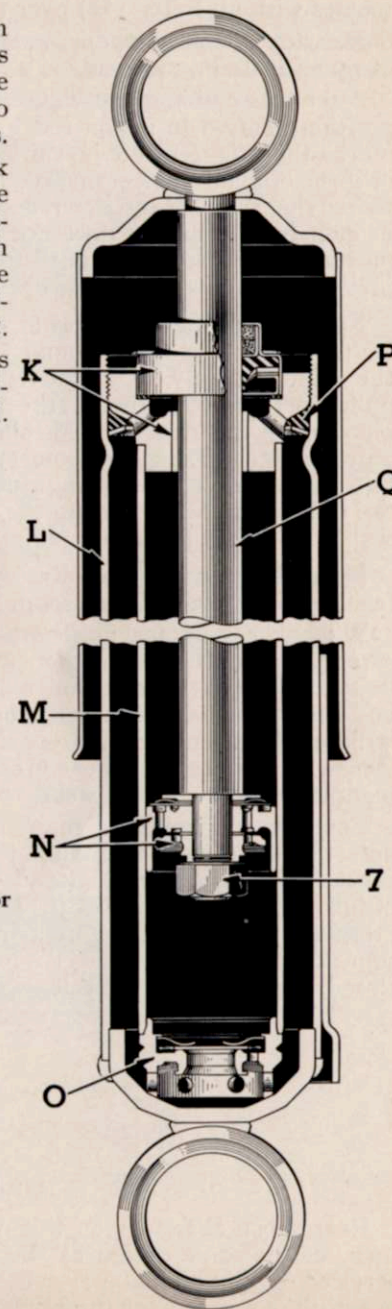

Fig. 61 (Right)—Sectioned One Inch Monroe Unit Used at the Rear on 1803 and 1806 Cars. Many Parts Are Interchangeable With the One Inch Delco
1. Using the special rod guide spanner wrench S.T. 10047 through the openings in dust shield engage the slots in top guide "K" then unscrew and lift off the top unit which includes the dust shield and the cylinder pressure tube "M." Now remove lower half from vise and pour all of the fluid out of the reservoir tube "L." Tap the compression valve "O" out of the tube. Refer to Fig. 61.